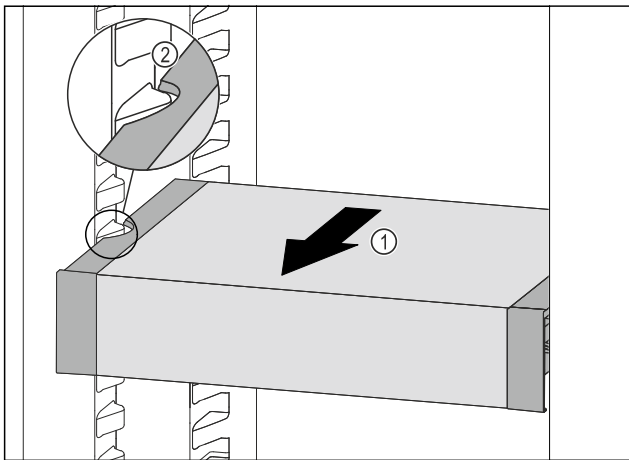

Fig. 156
- ▶ Pull VarioSafe forwards Fig. 156 (1) until the recesses in the side of the VarioSafe are at the level of the support rib in the fridge section. Fig. 156 (2)